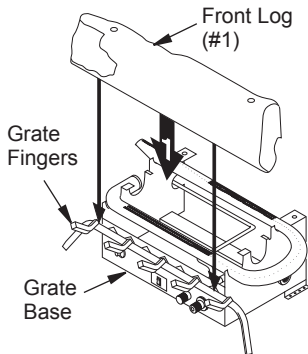

Figure 23 - Installing Front Log (#1)
1. Place the front log (#1) on the grate fingers. Make sure the front log rests firmly between the grate fingers and the grate base (see Figure 23).